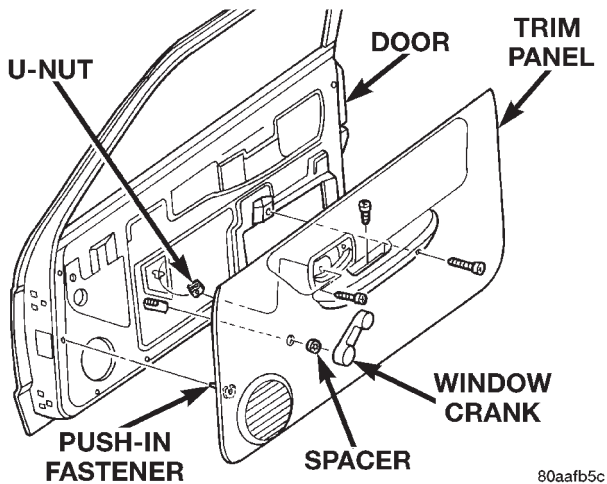
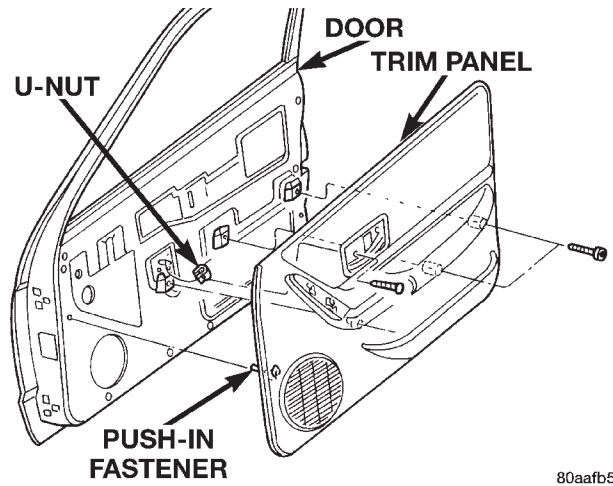

Fig. 8 Front Door Trim Panel Remove/Install - Manual Window
Fig. 9 Front Door Trim Panel Remove/Install - Power Window
- (3) Remove the screws that secure the front door trim panel to the inner door panel (Fig. 8) or (Fig. 9).